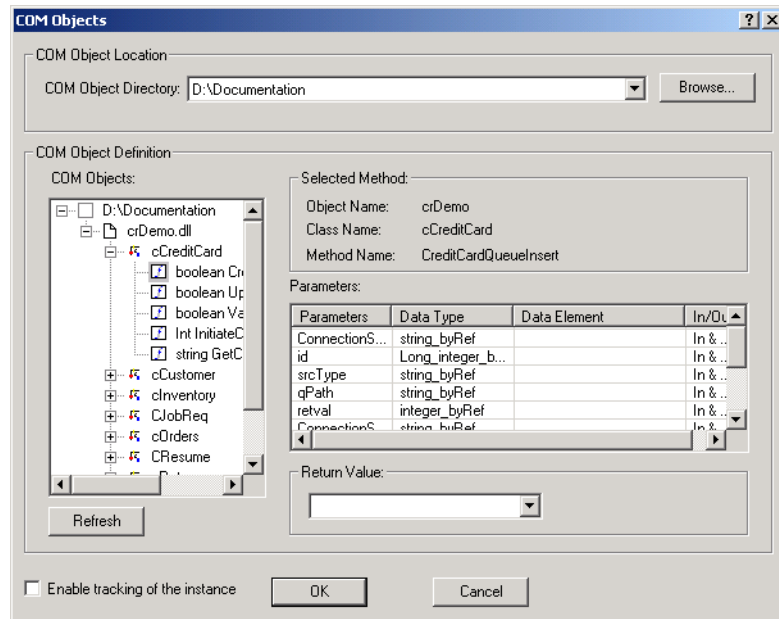

Figure 37-10. The COM Objects dialog where you choose the location holding the COM Object.
- ❶ Double-click on any task, and click the **Opening** or **Closing** Script tab.
- ❷ Right-click on the Begin statement, and select **Object Call To**, then **COM Object** from the **Insert** drop-down menu. The COM Objects dialog appears (see Figure 37-10, below).